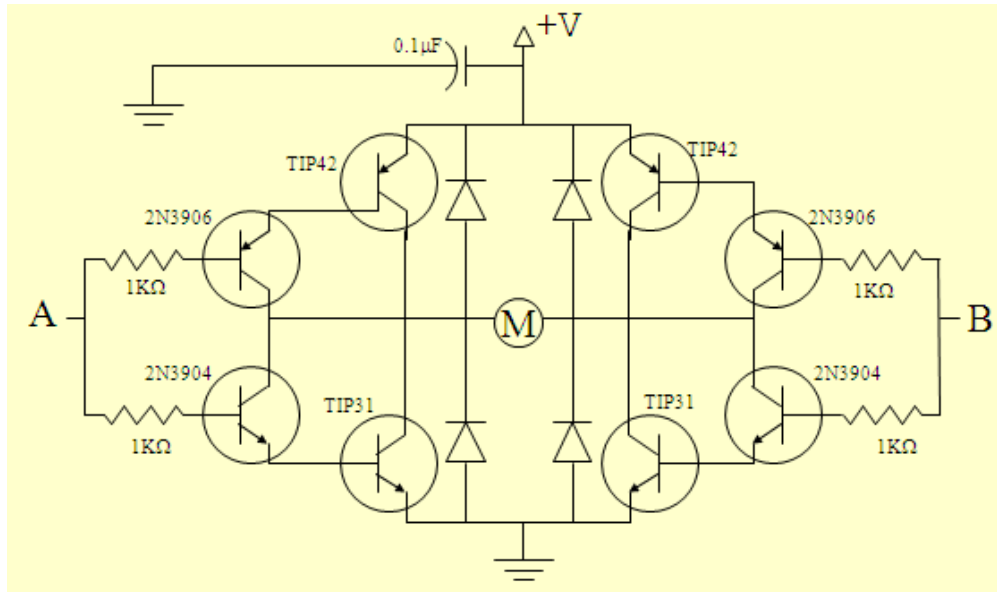

Figure 6.2: DC-Motor Control H-Bridge
2. A typical microcontroller can source or sink only about 10-25mA per IO pin. As such, if we were to generate a 5V, 20mA PWM signal from the K64, it would not provide sufficient power to turn our DC motor. To solve this problem, transistors, H-bridges, and motor controllers are used. Each of these amplify the output signal from the IO port to the appropriate voltage and current necessary to drive the motor. For example, we could use NPN and PNP transistors to construct our own H-bridge. In the circuit in Figure 6.2, by having IO A high and IO B low, the motor turns in one direction, and swapping their polarities makes the motor turn in the other direction. Answer the following questions based on Figure 6.2.
5. The circuit shown in Figure 6.2 is offered as a prepackaged integrated circuit such as the L293NE/SN754410 which contains four half bridges. Two half bridges make a full H-bridge, so one L293NE/SN754410 IC can drive two DC motors. For simplicity, we'll only drive one motor, making connections as per the L293NE/SN754410 datasheet and class lecture slides. Connect the microcontroller generated PWM signals to input pins on the chip (use left side). Connect the enable pin and Vcc1 to +5V from the K64. Connect Vcc2 to +10V from power supply. Note: to drive the motor clockwise, one of the two signals is set to ground or 0% duty cycle; to change direction, swap which signal (input pin) is PWM and which is ground.